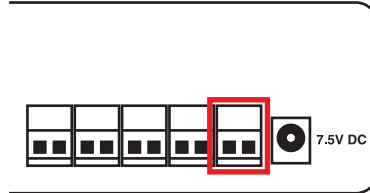

Figure 3-5. Plug the temperature sensor into Port 1.
1. Plug the sensor into one of the dry contact ports on the rear panel of the unit. In this example, we will use Port 1. See Figure 3-5.